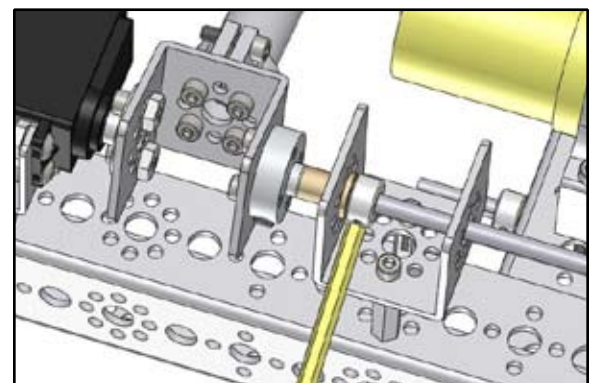

Figure B19
- 8) Push this side onto the axle. Before pushing it out the other side, place an axle set collar on the axle. Then, push the piece until the channel piece holes line up with the two stand-off posts beneath it. Use two 5/16" SHCSs to attach the channel to the posts. Push the set collar against the bushing and tighten the screw (Figure B19).